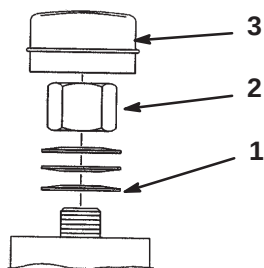

Figure 39
2. Remove dust cap from castor and tighten lock nut (Fig. 39).
3. Tighten until spring washers are flat and then back off a 1/4 turn to properly set the pre-load on the bearings (Fig. 39).
IMPORTANT: Make sure spring washers are installed correctly as shown in figure 39.